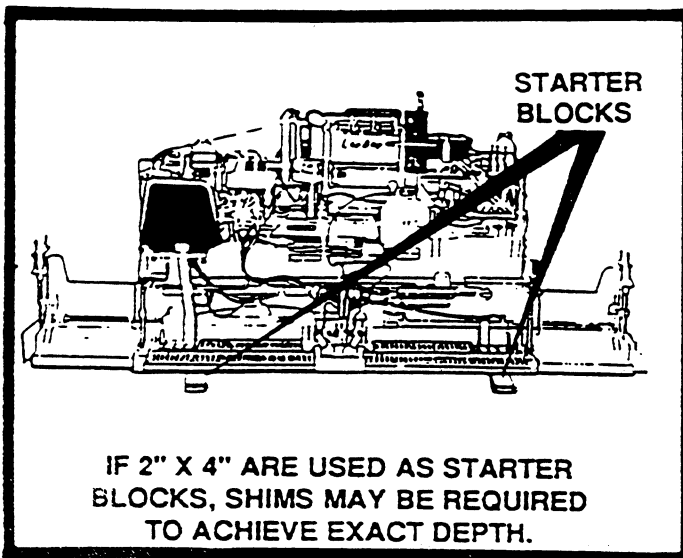

FIGURE 2
3. To get depth, set screed on starter blocks. See figure 2.